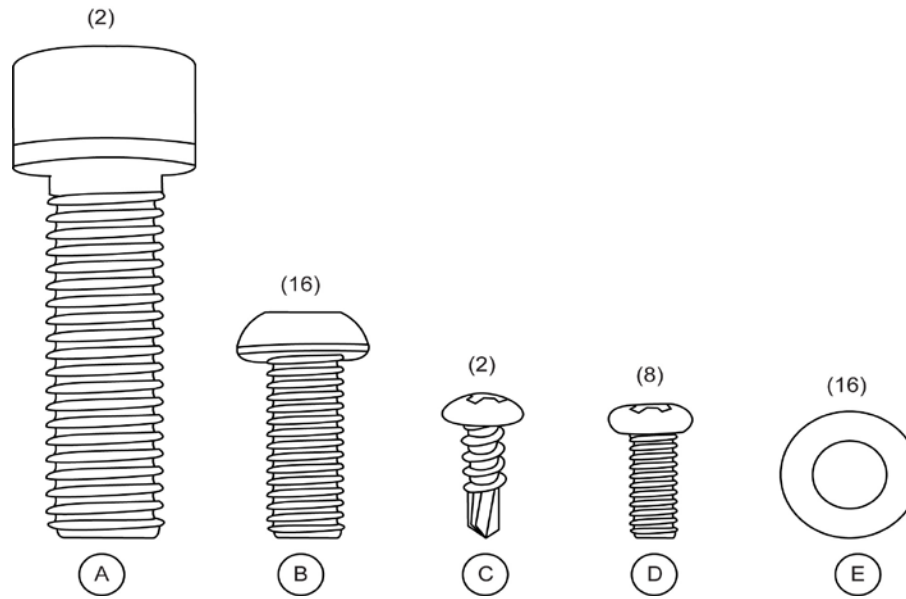

Figure 1
- (1) Plastic bag containing:
- (2) Covers for Display Support (Front & Back)
- o Hardware for assembly (see Figure 1)
- (2) Pivot bracket screw covers
4. Position the center handrail over the left and right mounting holes arrays on the platform. Fasten the handrail to the platform. Use (8) M8 1.25 x $\frac{3}{4}$ screws (B) and (8) M8 washers (F). Use the 5mm Allen wrench to tighten the screws. Do not over tighten (see Figures 1 & 3).
5. Attach the left / right side handrails to the center handrail and platform using (2) M10 1.5 x 1 $\frac{1}{2}$ screws (A), (8) M8 1.25 x $\frac{3}{4}$ screws (B) with (8) M8 washers (F), and lightly tighten (see Figures 1, 2 & 3).
15. Align the four mounting holes on the back of the display assembly with the four mounting holes in the display support. Fasten the display assembly onto the metal display support by using (4) Phillips pan head #5 x $\frac{3}{8}$ screws (E). Use Phillips head screwdriver to tighten the screws (see Figures 1 & 4).
16. Place the pivot bracket screw covers over the pivot screws. Fasten the covers to the back of the display using (4) Phillips pan head #5 x 3/8 screws (E). Use Phillips head screwdriver to tighten the screws (see Figures 1 & 4).
17. Attach the adapter holder to the center handrail using (2) #8 x 1/2 sheet metal screws (D). Use Phillips head screwdriver to tighten the screws. (see Figures 1 & 2).